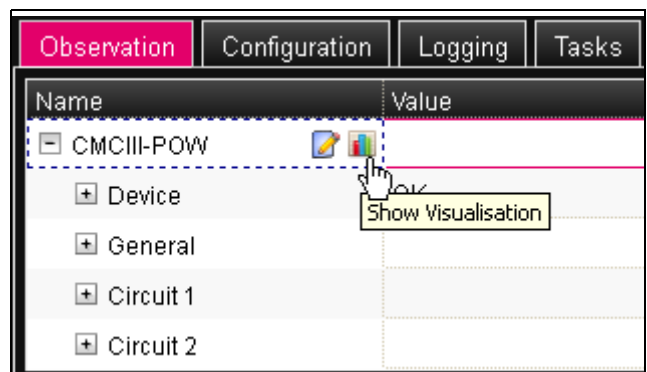

Fig. 27: "Graphic" icon
- Click the coloured "graphic" icon suffixed to the "CMCIII-POW" entry in the form of a stylised chart (fig. 27).